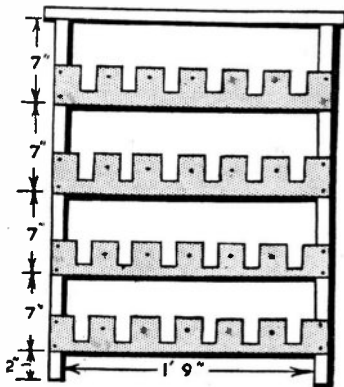
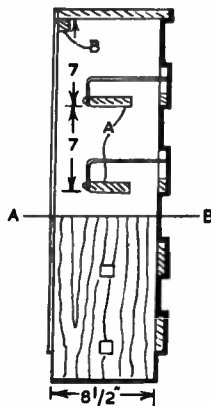
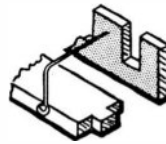

Fig. 1
Fig. 2
Fig. 4
A front elevation is given in Fig. 1, and a side view in Fig. 2, the upper part of the latter, that part above line (A-B), being shown as a vertical side-section to make the interior fittings clearer. The dimensions given can be amended quite easily to suit individual requirements.
Wire of reasonably stout gauge is advised for the divisional wires, shown in Fig. 2, and more clearly in detail in Fig. 4. Cut into 9 in. lengths, then twist one end of each to make an eyelet. At about $1\frac{1}{2}$ in. from the eyelets, bend wires at right angles. Fix each one to the rear edges of the crossbars, directly in line with small hole in front cross strips, with a screw through the eyelet. Push the free end through the hole in the cross strip opposite, and snip off any surplus protruding. Screw or nail back of rack in position and finish as desired. (E)